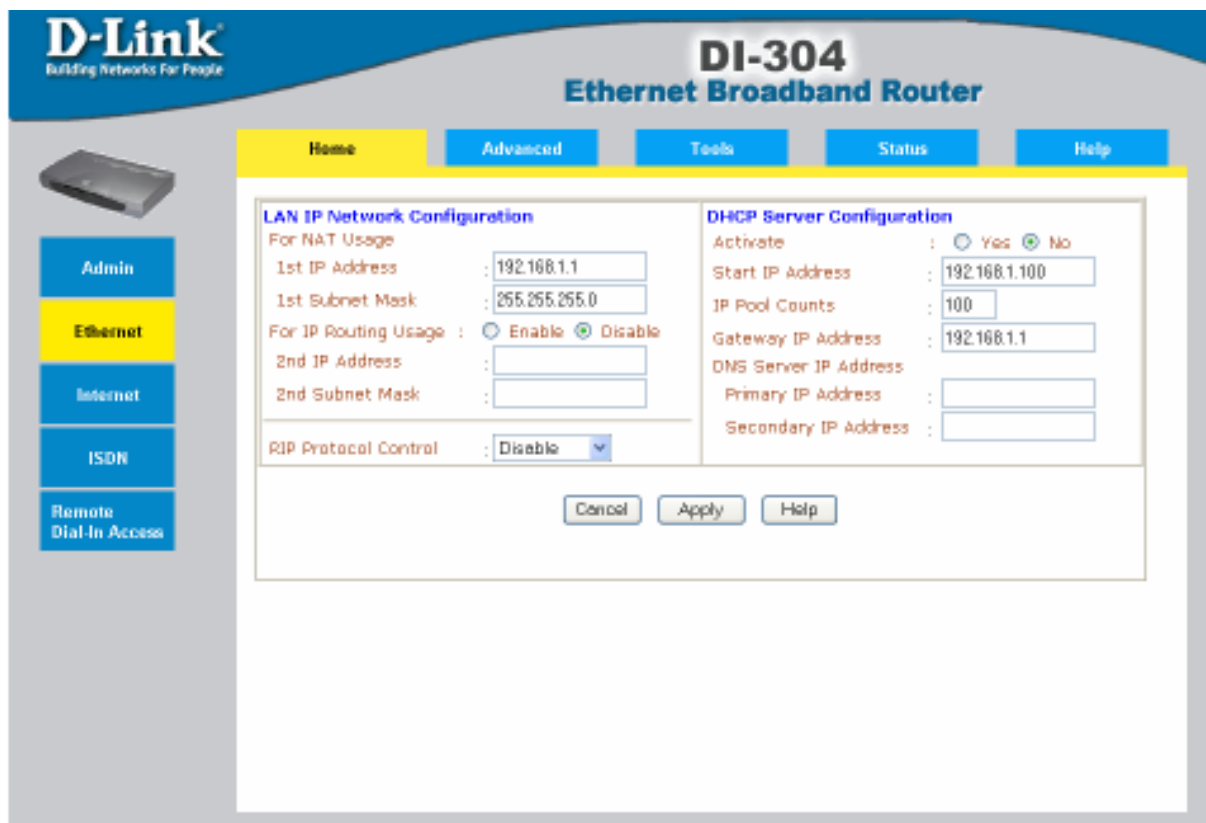

Figure 24: Ethernet configuration of ISDN Router 1
1. First the local IP settings have to be established (see Figure 24). In the example, the local ISDN router has assigned the IP address 192.168.1.1. It also provides a DHCP server which assigns addresses in the IP range starting with 192.168.1.100.